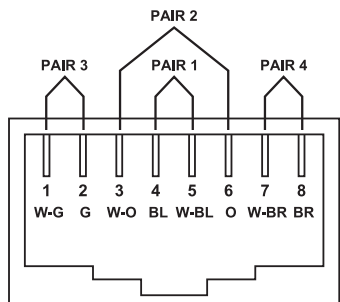
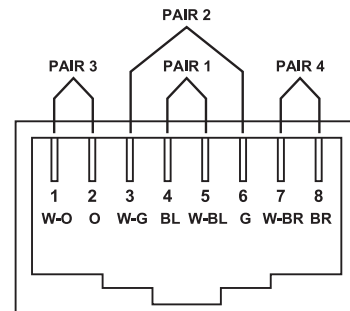

Figure 5-2. T568A wiring.
Figure 5-3. T568B wiring.
RJ-45: The Registered Jack (RJ) physical interface is what connects the network cabling (CAT5) to the local unit and the remote unit. You may use either the T568A scheme (see Table 5-1 and Figure 5-2) or the T568B scheme (see Table 5-2 and Figure 5-3) for cable termination. RJ-45 connectors are sometimes also referred to as 8P8C connectors.